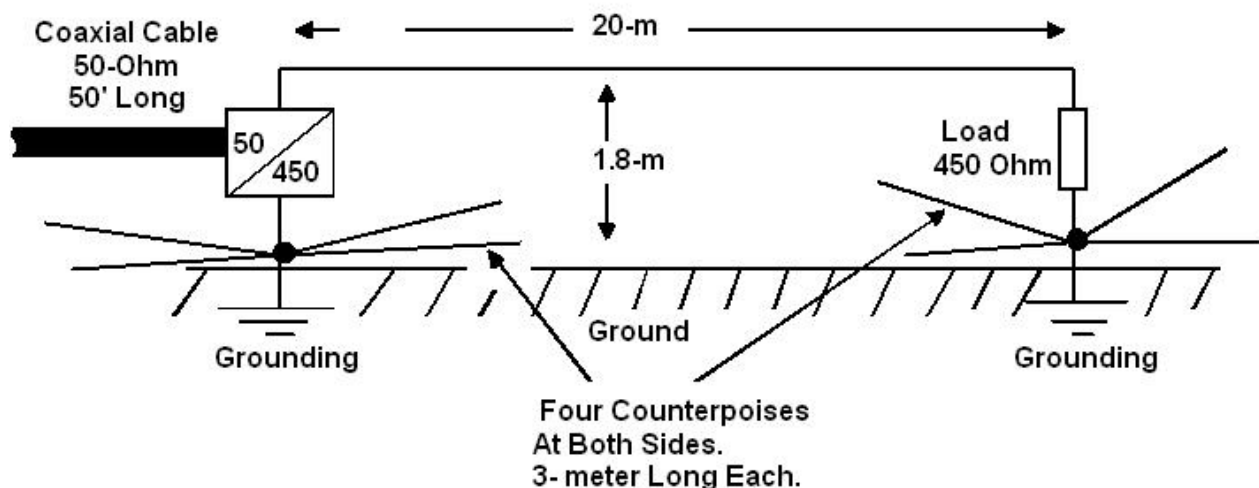

Figure 1
My Beverage Antenna (**Figure 1**, that was described at: http://www.antentop.org/019/va3znw_019.htm) works well at my station. The antenna was successfully tested at CQ WW 160-Meter Contest (CW), CQ WPX (2016, CW) and ARRL International CW Contest (2016). I worked there with my IC- 718 using only 50... 90- W.